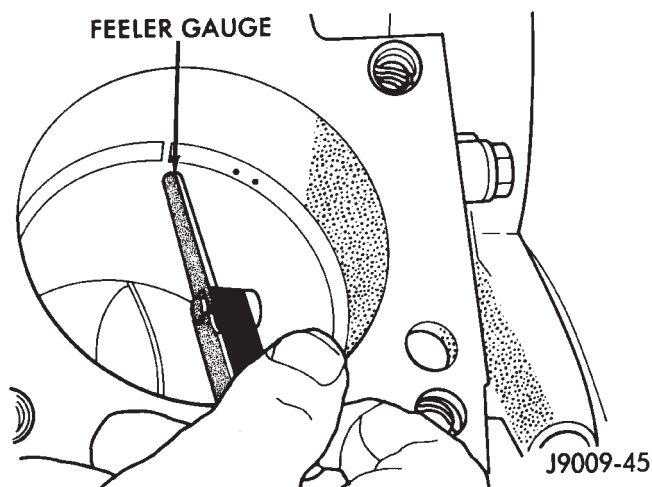

Fig. 20 Ring Gap Measurement
(3) Place ring in the cylinder bore and push down with inverted piston to position near lower end of the ring travel. Measure ring gap with a feeler gauge fitting snugly between ring ends (Fig. 20). The correct compression ring end gap is 0.25-0.51 mm (0.010-0.020 inch). The correct oil control ring end gap is 0.381-1.397 mm (0.015-0.055 inch).